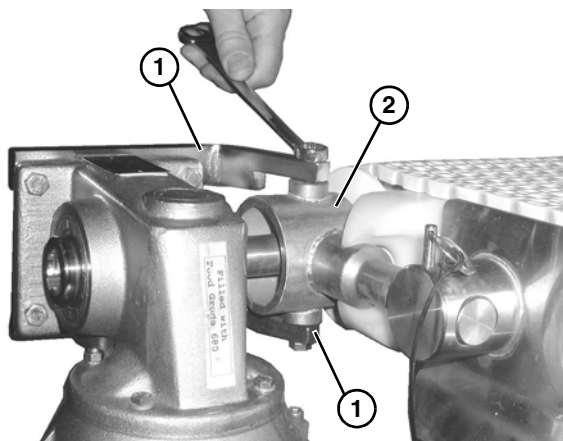

Figure 12
3. Attach the bent bars (**Figure 12, item 1**) to the motor mounting bracket (**Figure 12, item 2**).